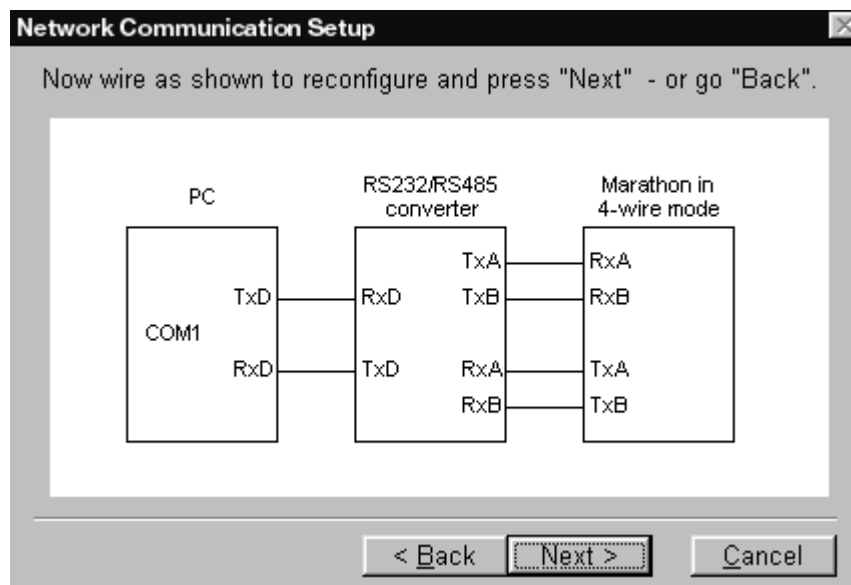

Figure 3-8: 4-Wire Wiring Diagram
- If you selected “4-wire multidrop mode,” you are shown a wiring diagram to verify the attached sensor is wired correctly (Figure 3-8). If this is correct, click Next.